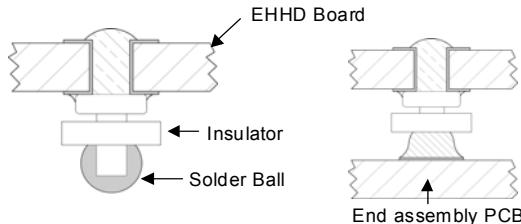

Figure 22. Column Pin Connector Before and After Reflow Soldering.
technology called "Column Pin" (CP) connectors. Figure 22 shows the new CP connector before and after reflow soldering onto the end-board assembly. The CP is constructed from a solid copper pin with an integral solder ball attached, which is composed of tin/lead (Sn/Pb) solder for non-Z codes, or Sn/Ag3/Cu (SAC) solder for -Z codes.